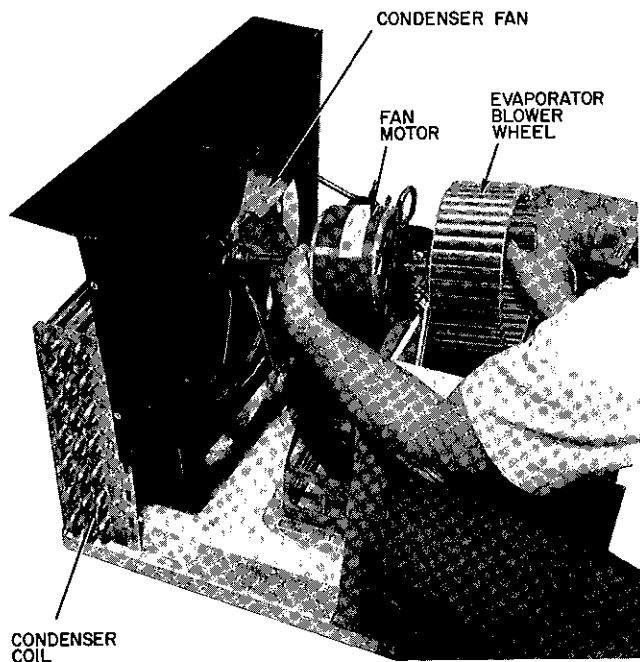

Fig. 32 — Evaporator Fan Section
- 36 **Fan Section** — See Fan Section in Fig 32
- i Gently lift fan assembly out of chassis See Fig 32
37 **Evaporator Fan** — See Evaporator Fan in Fig. 32
38 **Condenser Fan** — See Condenser Fan in Fig. 32
39 **Fan Motor** — See Fan Motor in Fig. 32
42 **Evaporator and Condenser Coils** — See Evaporator and Condenser Coils in Fig. 32 and 33. These coils have copper tubing and the interconnecting tubing has been manufactured as an integral part of the coil to aid in servicing.